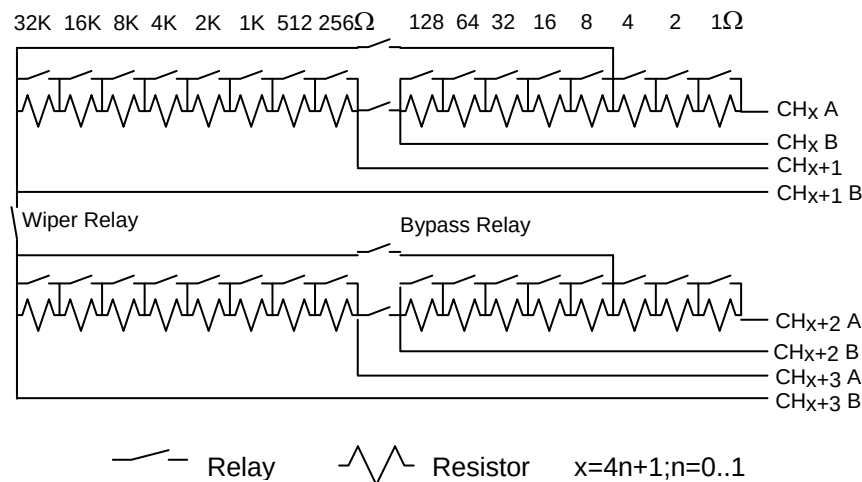

Figure 2-2: GX1164 Typical Group
Figure 2-2 illustrates the configuration of a single group. Channels 1 and 3 resistors' (CH_x and CH_{x+2}) have binary ladder values from 1Ω to 128Ω and can therefore simulate resistors from 1Ω to 255Ω . Channels 2 and 4 resistors' (CH_{x+1} and CH_{x+3}) have binary ladder values from 256Ω to $32K\Omega$ and can therefore simulate resistors from 256Ω to $64K\Omega$.
Each group may also be used as double channel mode providing four programmable resistor channels of 1Ω to $65,535\Omega$ (by combining channels 1 through 8 as shown in figure 2-2)
- One programmable resistor channel of 1Ω to $128K\Omega$ (by combining channels 1, 2, 3 and 4 as shown in figure 2-2) with 'wiper' connection between channels 2 and 3.
- One programmable resistor channel of 1Ω to $720K\Omega$ (by combining channels 5, 6, 7 and 8 as shown in figure 2-2) with 'wiper' connection between channels 6 and 7.